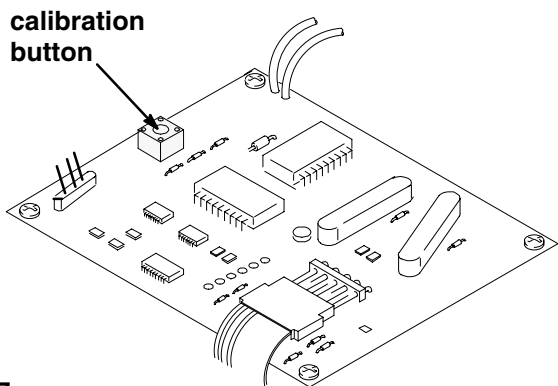
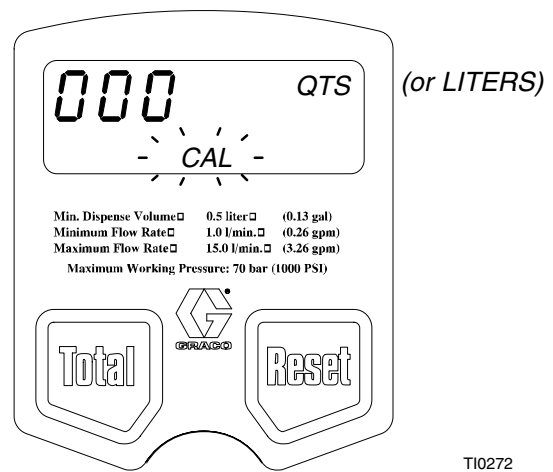

Fig. 7
Fig. 8
1. Remove the six screws (21) (see the **Parts Drawing** on page 18) that hold the two halves of the cover together, open the unit, and remove the fluid section to gain access to the Calibration button.
3. Press the calibration button inside the unit, shown in Fig. 7. The “CAL” indication should show on the display (see Fig. 8).
4. Reassemble the two halves of cover using screws (21).
5. Press the Total button. Output should be 000 as shown in Fig. 8.